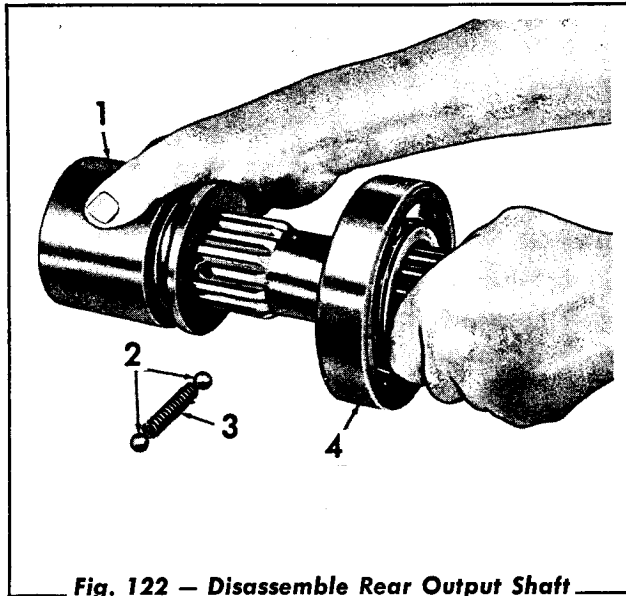

Fig. 122 — Disassemble Rear Output Shaft
5. Remove the rear output disconnect coupling (Fig. 122) from the rear output shaft. Remove the two detent balls and the spring.